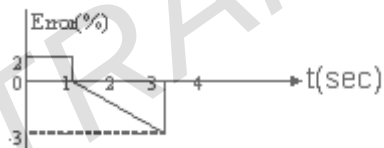

Figure 8b
- (b) A proportional controller has a gain of 3. Plot the controller output for the error given below figure8b if $P_o = 50\%$. (P_o – controller output with no error) [8+8]